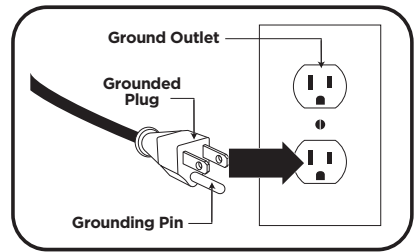

fig. A2 - Three-Prong Receptacle
- l. For added safety, the appliance must be plugged into a receptacle controlled by a GFI (ground fault interrupter) circuit breaker. Device must be properly connected to a grounded three-prong receptacle. (fig. A2)